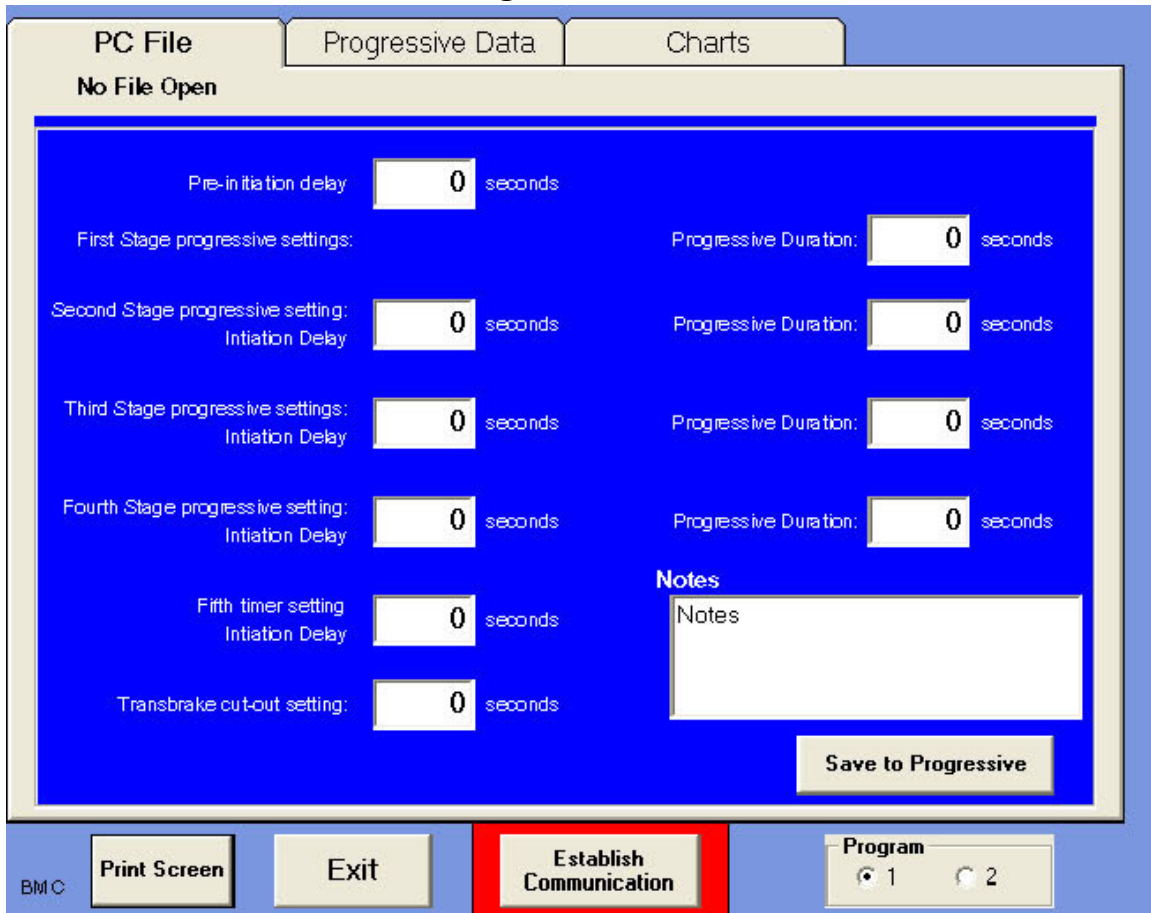

Figure 2
4. On your computer, select Start, programs, Progressive controller, Progressive controller. A window appears as shown in *Figure 2*.
6. In the programming screen in *figure 2*, select File, open, new.
9. Referring back to *Figure 2*, note that in the lower right corner, there are program 1 and 2 buttons allowing you to have 2 different profiles in the Progressive Timer/Controller that can be separately selected while in the car by applying voltage to terminal X2. This is extremely useful if you are in the staging lanes and the track conditions change while you are waiting.